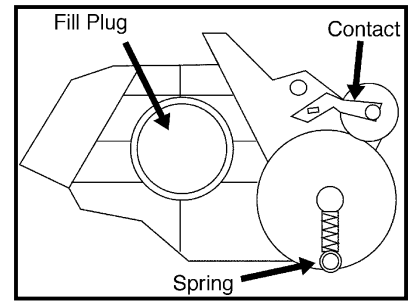

Figure 5
15. Use Alcohol and a cotton swab to clean the magnetic (mag) roller contacts (Fig. 5). **NOTE:** Removal of the mag roller is **not** recommended!